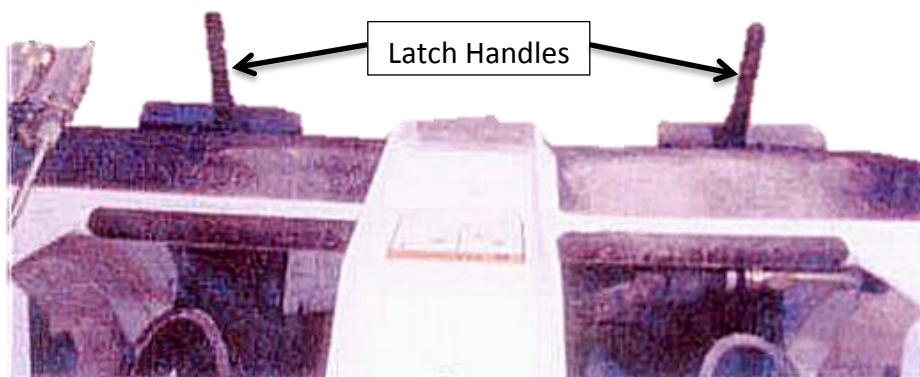

Figure 2: Skid Steer with latch handles up
1. With the engine completely shut down and the parking brake set, rotate the skid steer latch handles upward to the unlatched position. The latch handles must be completely raised to fully retract the hitch lock pins. See Figure 2.